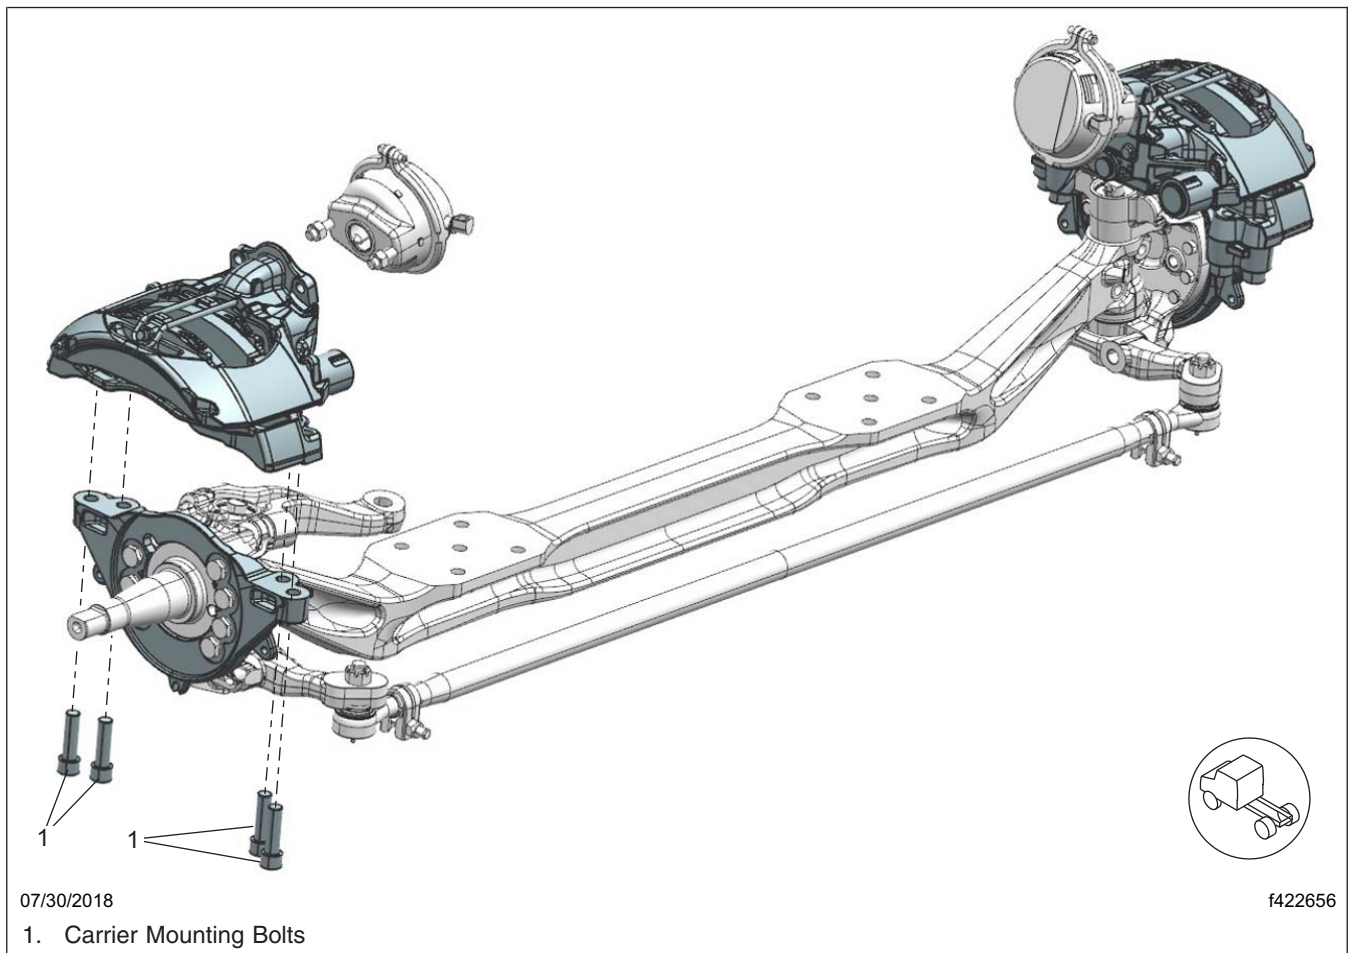
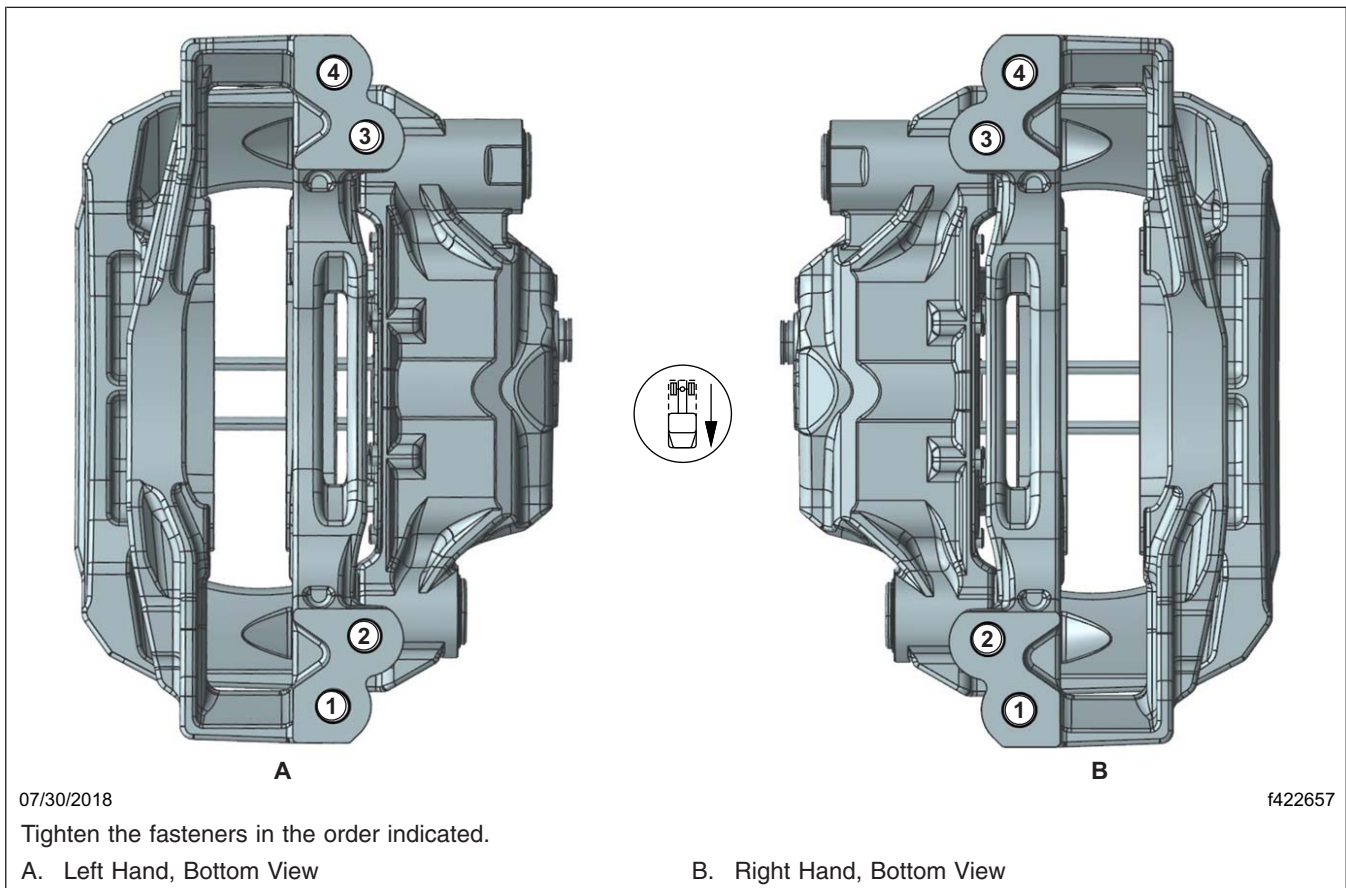

Fig. 5, Wabco Maxxus Radial Mounted Calipers
Fig. 6, Wabco Maxxus Radial Mounted Caliper Tightening Pattern
- Align each caliper/carrier assembly with the rotor by pushing the fixed pin side of the caliper against the shelf on the torque plate, then install the caliper/carrier assembly using new caliper mounting bolts. See Fig. 5 and Fig. 6.
7. Tighten the carrier mounting bolts in two steps, using the pattern shown in **Fig. 6**.